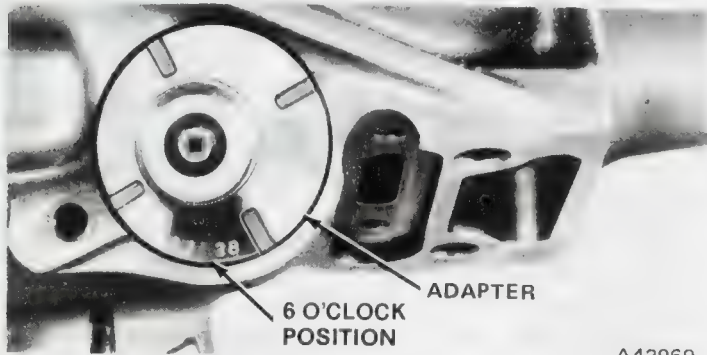

Fig. 2C-18 Adapter Indexing Position
(1) Remove speedometer adapter retainer bolt and retainer (fig. 2C-19).
(2) Position drain pan under adapter and remove adapter. Note adapter position before removal.
(3) Remove speedometer pinion retaining clip and remove pinion. Note number of teeth on pinion.
(4) Remove cable from adapter by pulling cable straight out of adapter.
(5) Remove O-ring seals from adapter and cable. Clean cable and adapter.